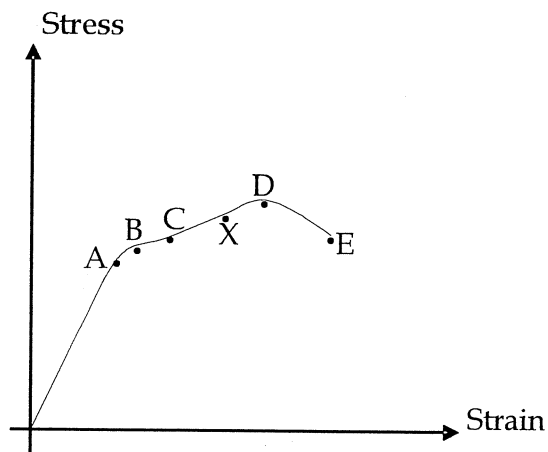

Figure 2(b)
- (b) A stress – strain graph for a certain metal wire, up to its breaking point is shown in figure 2(b).